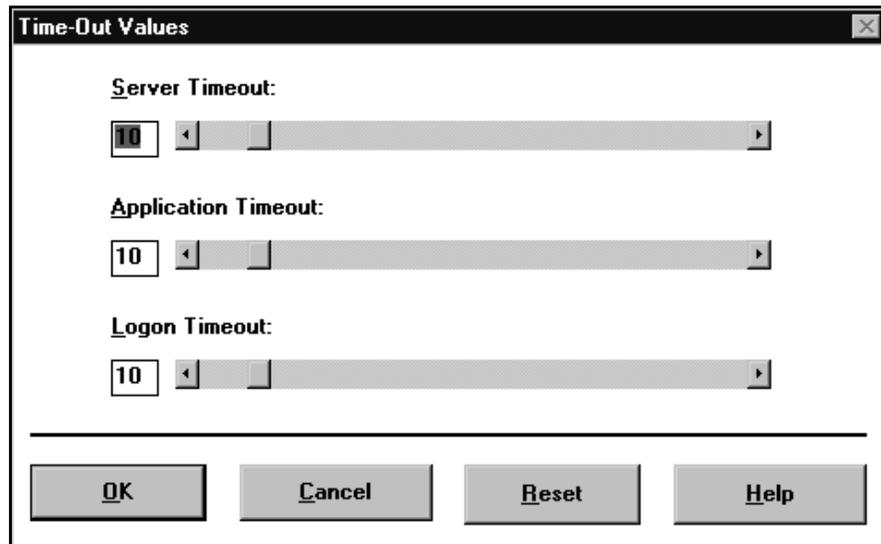

FIGURE 62. Example of Time-Out Values dialog box
1. In the configuration window, select Time Outs. (See Figure 62.)